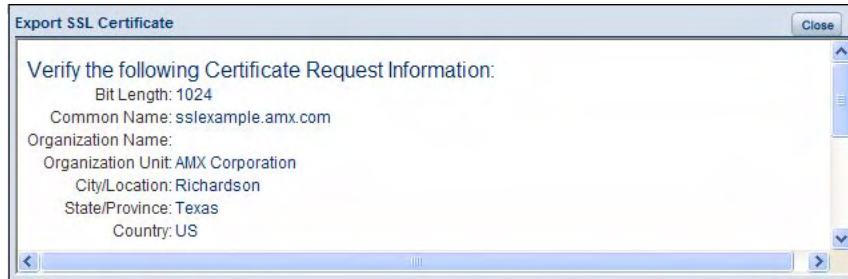

FIG. 11 Export SSL Certificate window
2. Click the **Export SSL Certificate** link to display the certificate text file in the Export SSL Certificate window (FIG. 11).